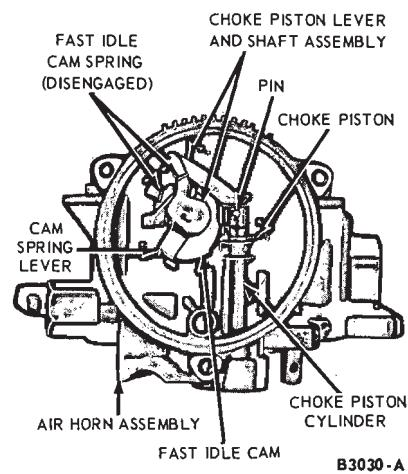

FIG. 9.—Automatic Choke Piston Removal or Installation
6. Remove the air cleaner bracket. Remove the choke plate attaching screws. File the staked ends, if necessary, and use new screws upon reassembly. Remove the choke plate from the air horn assembly. Disengage the fast idle cam spring from the cam spring lever on the choke piston lever and shaft assembly. Rotate the choke shaft and piston assembly counter-clockwise until the choke piston is out of the choke piston cylinder (Fig. 9). Remove the assembly from the air horn. Remove the piston pin, piston, fast idle cam, and fast idle cam spring from the choke piston lever and shaft assembly.
8. Install the fast idle cam and spring on the choke piston lever and shaft assembly. Assemble the choke piston and pin to the choke piston lever and shaft assembly. Disengage the cam spring from the cam spring lever on the choke lever and shaft assembly. Install the choke shaft assembly in the air horn and position the piston as shown in Fig. 9.